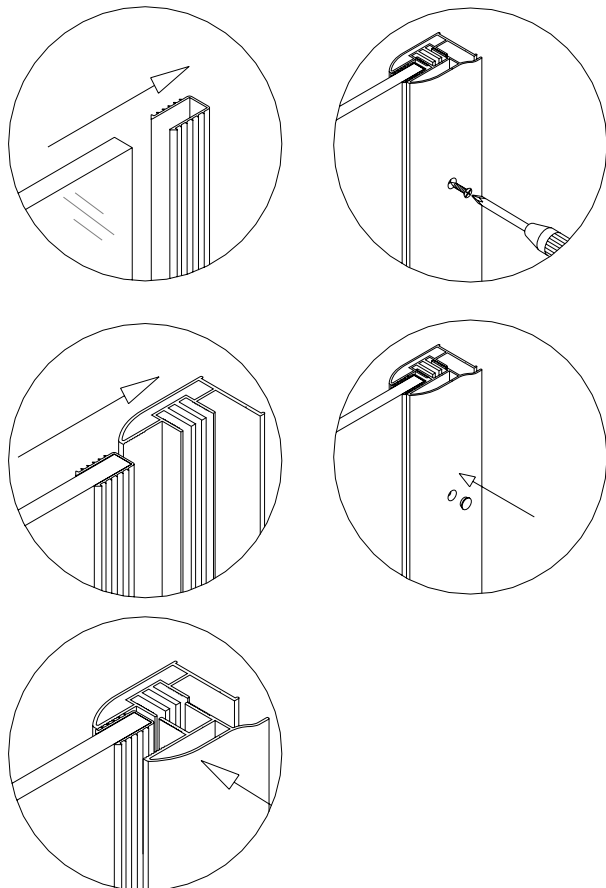

Fig 2
2. Have out the **Stationary Glass panel (2)**. Locate small holes on the stationary glass. These holes must face towards the door. Place a **U-Shape Seal Gasket (11)** on the long (vertical) side of the glass panel; fit the glass with the gasket into the position (fig 2).
3. Attach the second part of **wall profile (1)** to the **L-shape profile** using **4X16 flat head self-tapping screw (13)** and fasten tight the profile so to secure the position of the stationary glass. Cover the holes with **Decorative cover (14)** (fig 2).